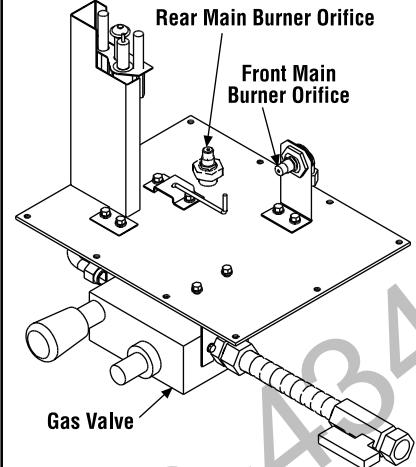

Figure 57
Step 7. Unscrew the rear and front main burner orifices (see Figure 57) from their respective manifolds and replace them with the ones provided in this kit. There are two main burner orifices provided in this gas conversion kit. Refer to **Table** below for the correct front and rear main burner orifice sizes for the gas being used. The orifice size is stamped on the orifice. See Figure 58.